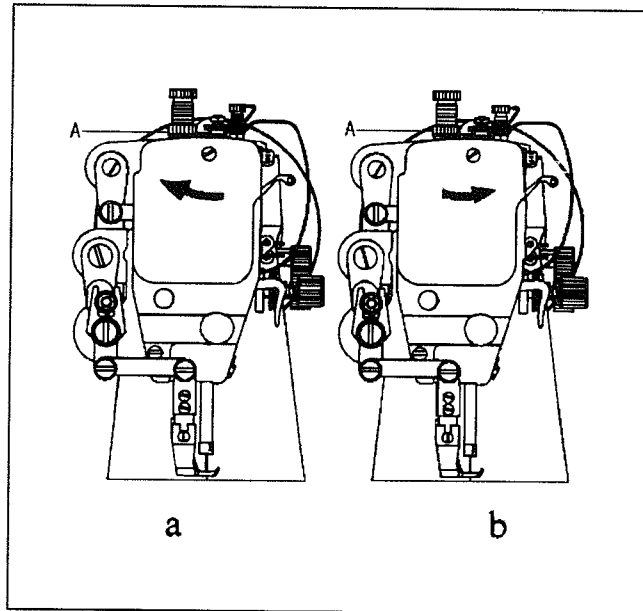

Fig. 11
12. ADJUST THE PRESSURE OF PRESSER FOOT (Fig.11)